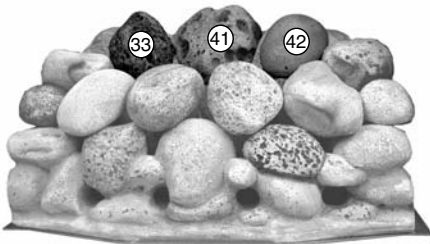

Fig. 34
5. Place the remaining three loose pebbles in line on the next row up, again making sure all the gaps are even. It is important that the pebbles 'bridge' the peaks of the fuel bed and are not placed in between. This helps the flow of burnt gases and should give an even glowing fuel bed (Fig. 34).